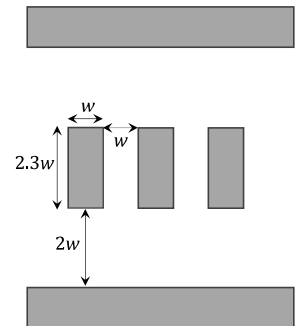

Figure 1
- Estimate the ratio of the power dissipation in the wires to the power dissipation in the gates (P_w/P_G). You may use the total wire length given in the ITRS and assume the total wire length given in the ITRS and assume that the wiring structure is as shown in Figure 1.
- Wire RC delay is defined as $t_w = RC$, where R and C are resistance and capacitance of the wire. Consider structure as shown in Figure 1. Assume length of the wire is $L = 100\mu m$ and W is the minimum wire size for each technology generation. Plot t_w/t as a function of year.